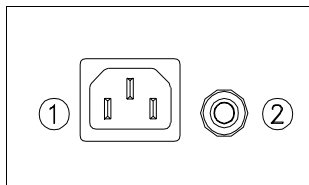

Figure 1
3. Through the endowed AC power supply cable connect LEONARDO to an AC utility line outlet. **It is mandatory to ground the outlet according to the Safety Standards.** Carefully check the grounding, make sure that the utility power is available, and that its range falls within LEONARDO specifications (refer to the “Specifications” chapter). For the connection use the input outlet fitted on the rear of LEONARDO (see figure 1, number 1).
16. Through the endowed AC power supply cable connect LEONARDO to an AC utility line outlet. **It is mandatory to ground the outlet according to the Safety Standards.** Carefully check the grounding, make sure that the utility power is available, and that its range falls within LEONARDO specifications (refer to the “Specifications” chapter). For the connection use the input outlet fitted on the rear of LEONARDO (see figure 1, number 1).
Control the thermal switch (Circuit Breaker) on the rear side (see figure 1, number 2)	Should the Circuit Breaker release, check if LEONARDO is overloaded and eventually reduce the load, then try to restore the Circuit Breaker by pressing on the released part.